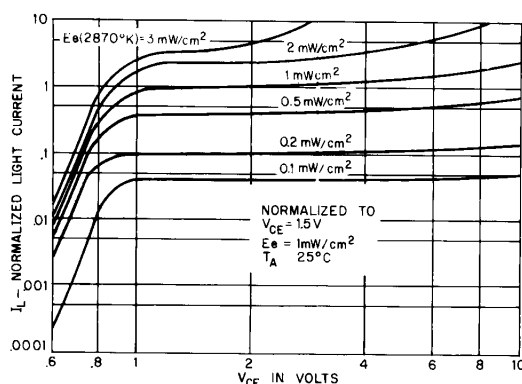
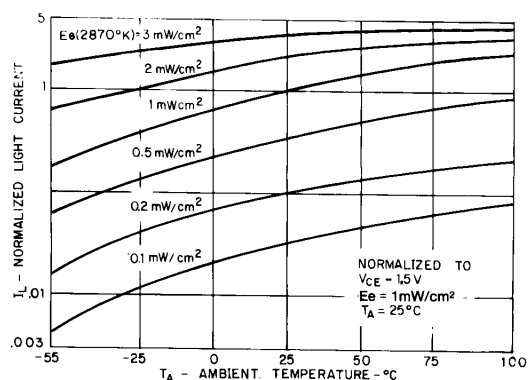

Fig. 1. Light Current vs. Collector-Emitter Voltage
Fig. 2. Light Current vs. Ambient Temperature
7. Figure 1 and figure 2 use light source of tungsten lamp at  $2870^\circ\text{K}$  color temperature. A GaAs source of  $3.0\text{ mW/cm}^2$  is approximately equivalent to a tungsten source, at  $2870^\circ\text{K}$ , of  $10\text{ mW/cm}^2$ .